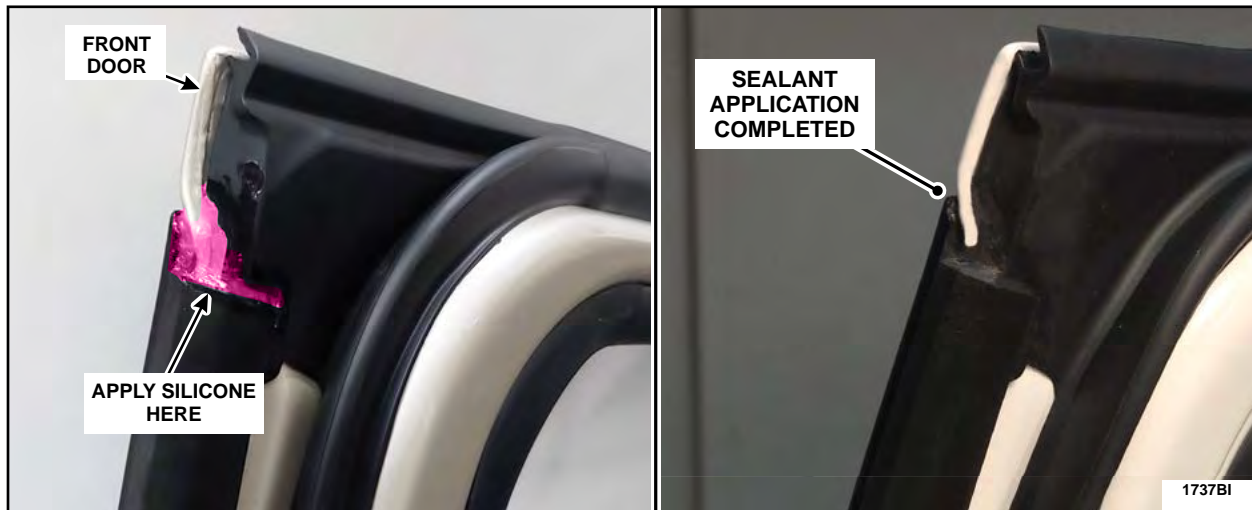

FIGURE 27
16. Using isopropyl alcohol clean the top portion of the door and then neatly apply Motorcraft® TA-30 silicone sealant to the indicated/highlighted area in order to completely fill the gap as shown in Figure 27.